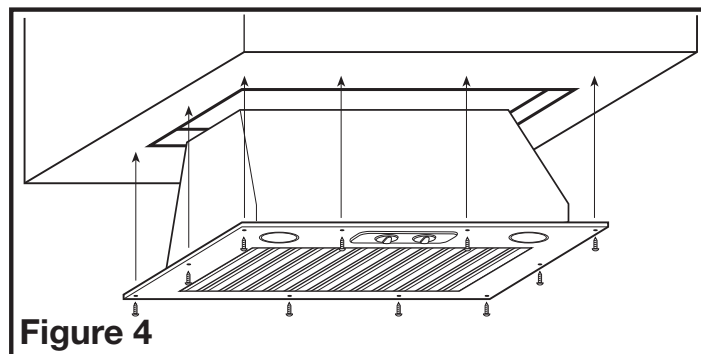

Figure 4
- Install the insert unit into the hole and secure in place using ten screws (not included) (**Figure 4**).